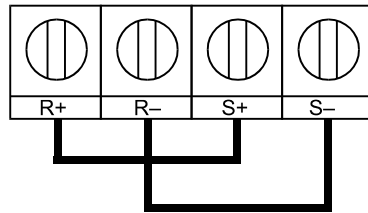

Fig 6.52 Connections when RS485 Communication is used
- When using RS485 communication is used, connect S+ to R+, and S- to R-, on the Inverter exterior. See Fig 6.52 below.